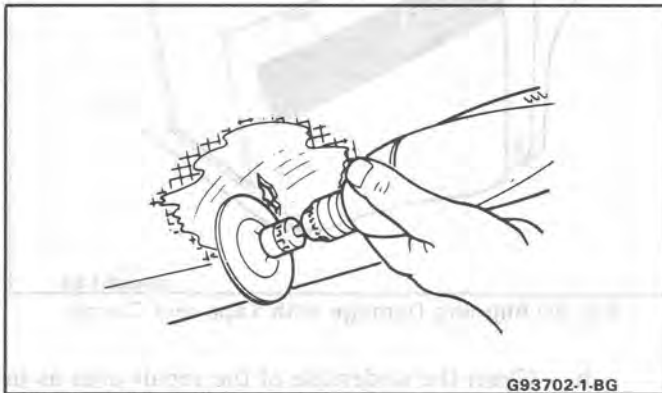

Fig. 13-Tapering Substrate Surrounding Damage
- b. Use a clean 2" or 3" #50 grit disc to enlarge the gouge or puncture in order to ensure removal of grease, oil or dirt from the area to be contacted by the repair material. This action should also create at least a 25 mm (1") taper around the damage for extended contact between the repair material and substrate. Remove all dust and loose particles from the repair area (Fig. 13).